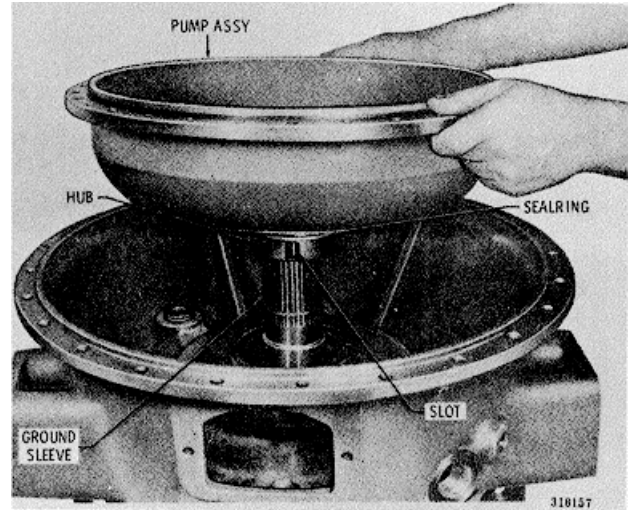

Fig. 5-19 Removing torque converter pump
(4) Remove the converter pump from the converter housing (fig. 5-19) After S/N 2082, remove the converter pump (fig. 5-20), using tool J25007, as follows.